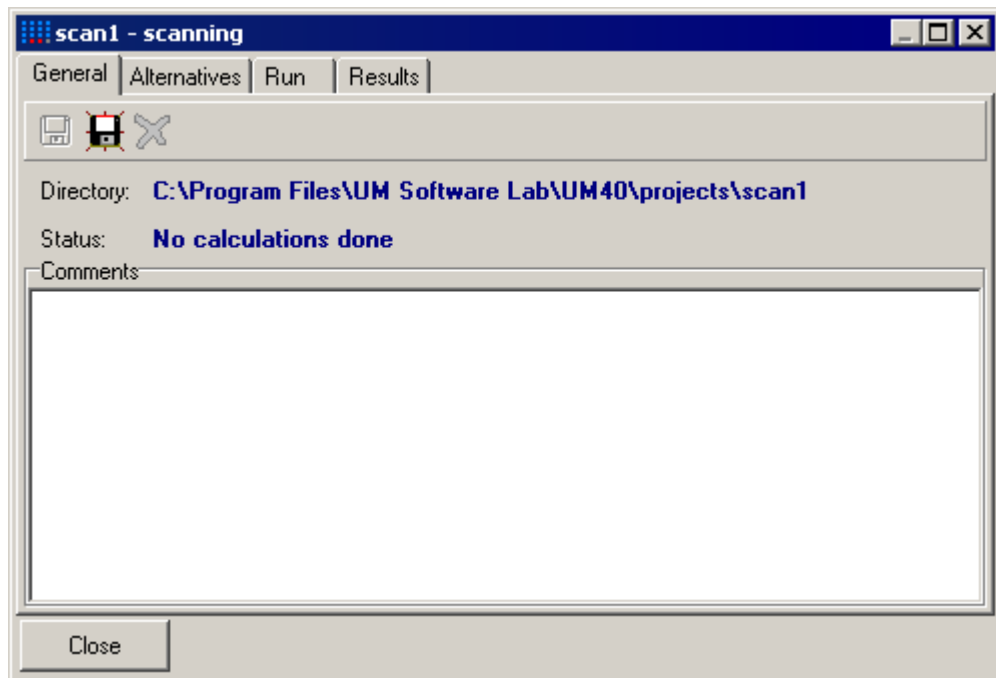

Figure 3.4. New scanning project
3. Press the **Create** button. The window of the new project appears, Fig. 3.4.